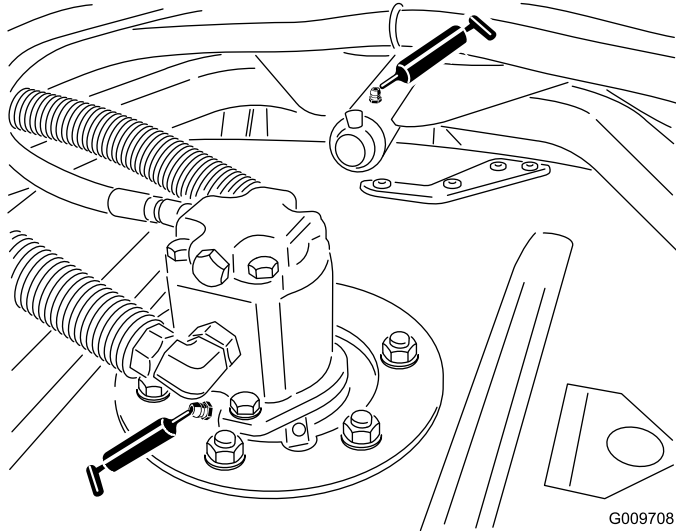

Figure 36
- Cutting-unit spindle-shaft bearings (2 per mower deck) as shown in Figure 36
- Cutting-unit carrier-arm bushings (1 per mower deck) as shown in Figure 36